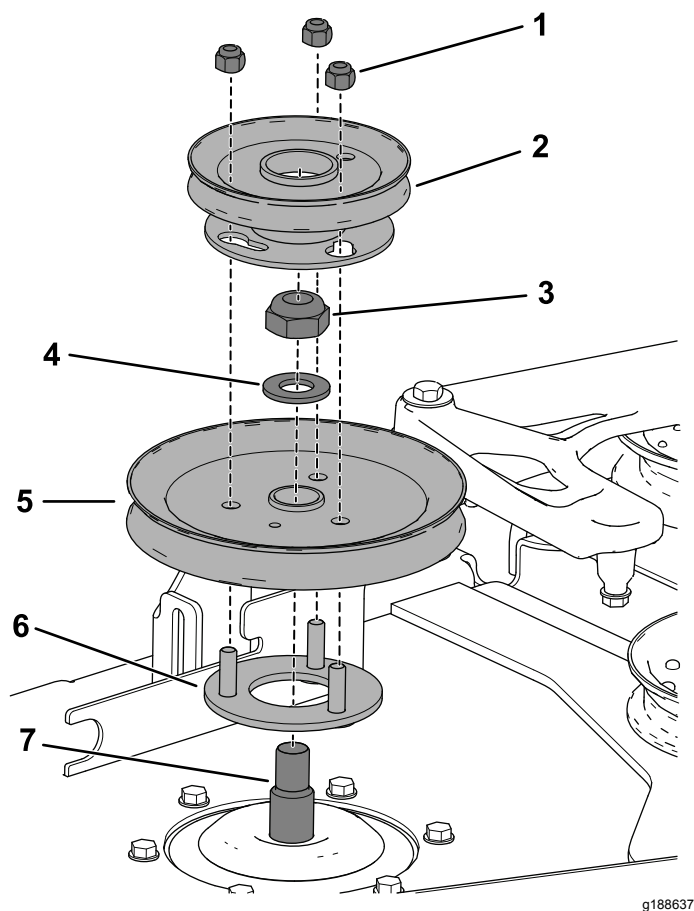

Figure 12
- A. Insert the threaded studs on pulley mount through the holes in the deck pulley (Figure 12).
- B. Use the locknut (3/4 inch) and washer that you set aside earlier to secure the deck pulley to the spindle shaft (Figure 12).
- D. Arrange the blower pulley onto the threaded studs and loosely install the locknut (Figure 12).